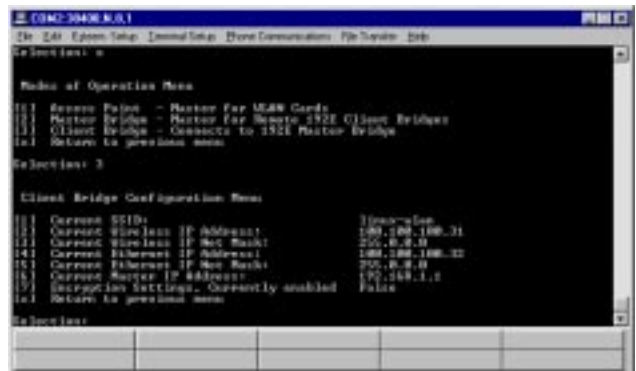

Figure 9: Client Bridge Configuration
3. Select Client Bridge (3<Enter>) to open the Client Bridge configuration menu (Figure 9).